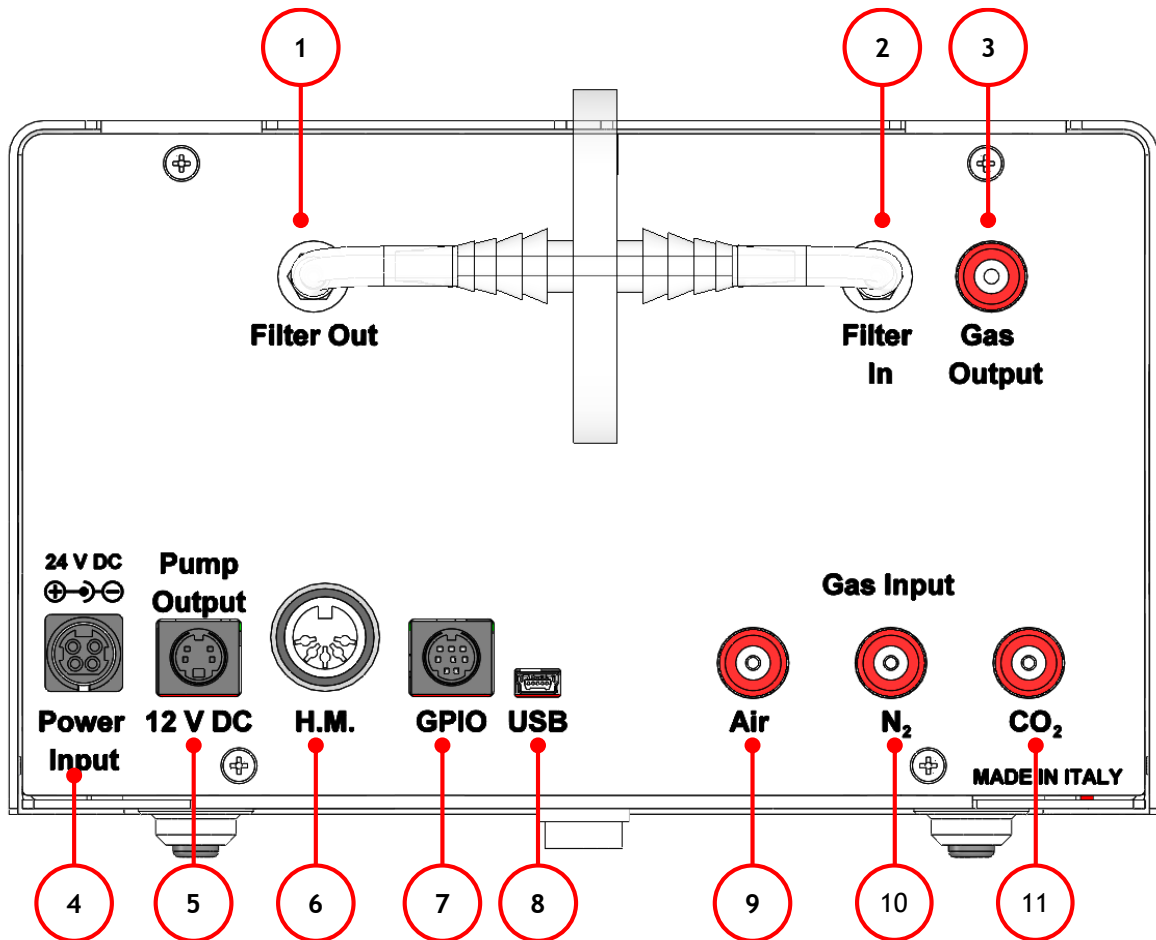
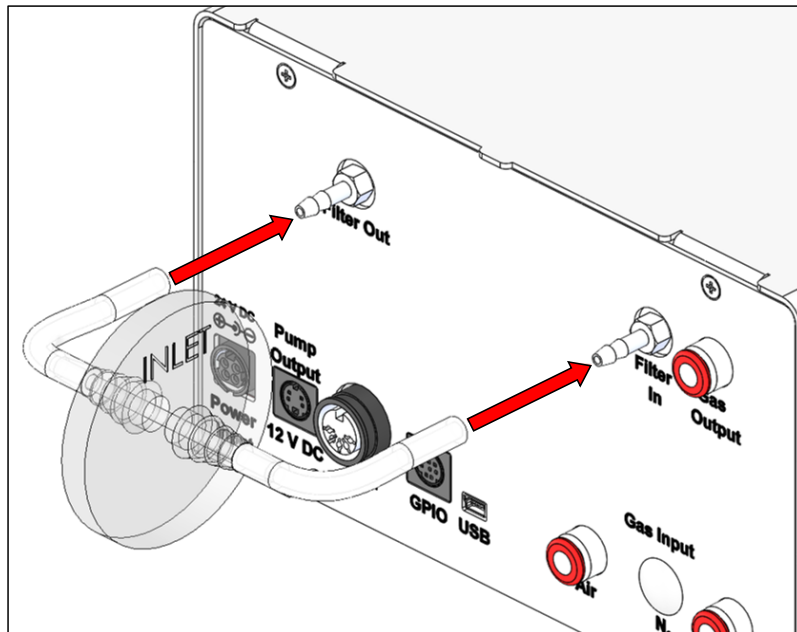

Figure 5. CO2-O2-UNIT-BL [0-10; 1-18] rear panel.
Figure 9. Filter tubing
A detailed description of CO2-O2-UNIT-BL [0-10; 1-18] rear is provided in the following list, which refers to the pointers in Figure 5:
2. Install the **PTFE filter** on the rear panel of CO2-O2-UNIT-BL [0-10; 1-18]. It filters the mixed gas before it enters in contact with CO2-O2-UNIT-BL [0-10; 1-18] gas sensors. Connect the PTFE filter with the *Filter In* and *Filter Out* connectors on the rear panel of CO2-O2-UNIT-BL [0-10; 1-18] (see Figure 9 and pointer 1 and 2 in Figure 5).